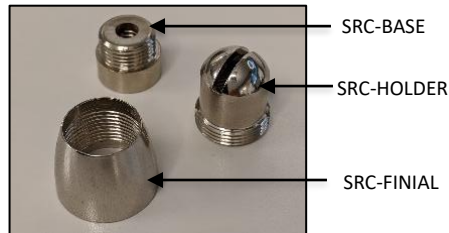

FIG. 20 – SLIP RING COUPLER (1) CONTENTS
9. Dis-assemble the SLIP RING COUPLER (1) as shown below in FIG.20 into three components SRC-BASE, SRC-HOLDER and SRC-FINIAL.